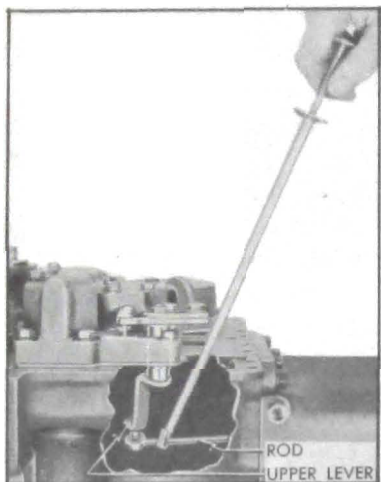

Figure 5-98—Connecting Valve Operating Rod to Upper Lever
7. Using Linkage Hook-Up Finger J 2591, position the socket of valve operating rod under the ball of valve upper operating lever and pull upward until ball snaps into the socket. See figure 5-98.